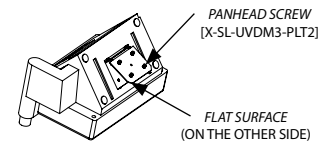

Figure 4
2. With the **FLAT SURFACE** of **PLATE 2** facing towards the **MONITOR**, align and insert the 2x tabs to the 2x top slots of the **MONITOR** as shown in **Figure 4**.